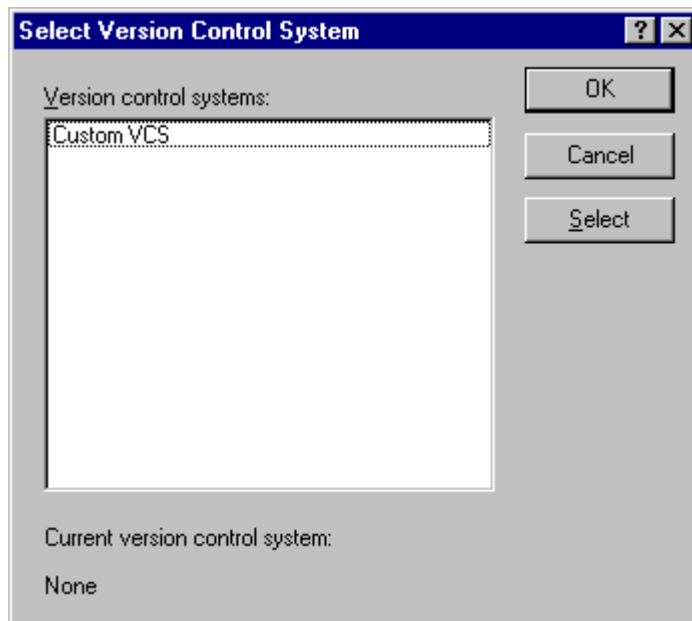

Figure 7.3: Select Version Control System Dialog
1. Select [Version Control->Select...]. The dialog shown in * MERGEFORMAT figure 7.3 will be displayed. This dialog lists all of the supported version control systems.
Note: Only those version control systems which have been installed with the HEW will appear in the "Select Version Control System" dialog * MERGEFORMAT (figure 7.3).